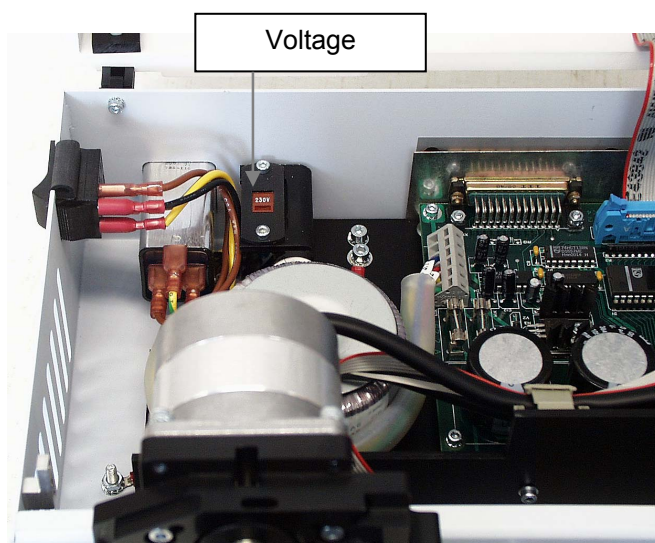

Fig. 5.2 Location of the voltage selector
2. Check that the voltage selector switch (Fig. 5.2) is in the correct position, that is, the voltage selected corresponds to the local voltage.